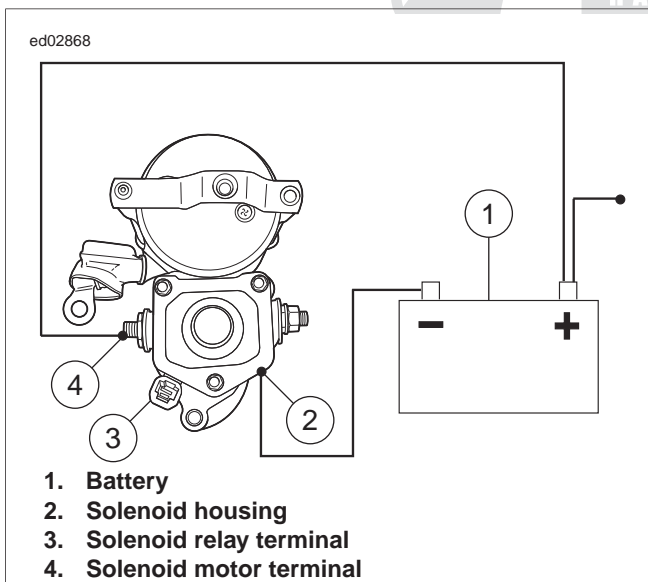

Figure 3-8. Return Test
- See Figure 3-8. With test leads still connected in the manner specified at the end of 3.4 TESTING STARTER ON BENCH, Solenoid Hold-In Test, disconnect solenoid relay terminal/positive battery post test lead at either end.